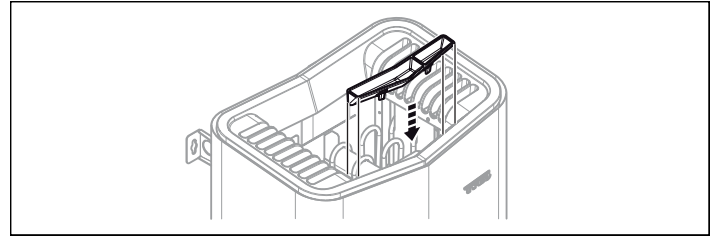

Figure 12: Fitting the fragrance holder/air humidifier
- Fit herb bowl/air humidifier (see Fig. 12).